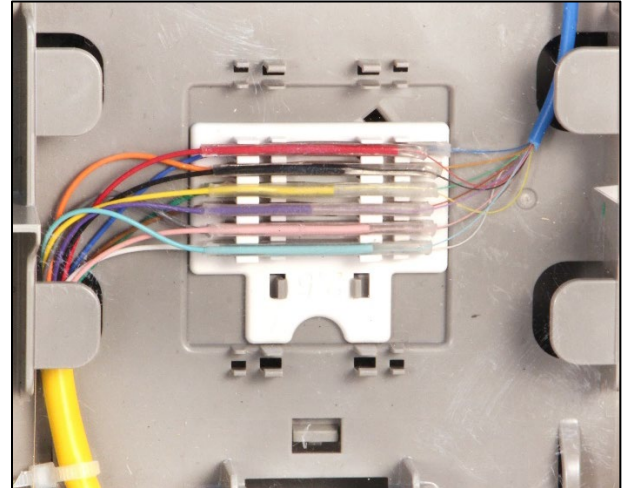

Figure 10
6. The splice chip is angled to reduce fiber bend radius and aid in splice tray slack storage in a small space (Figure 10)